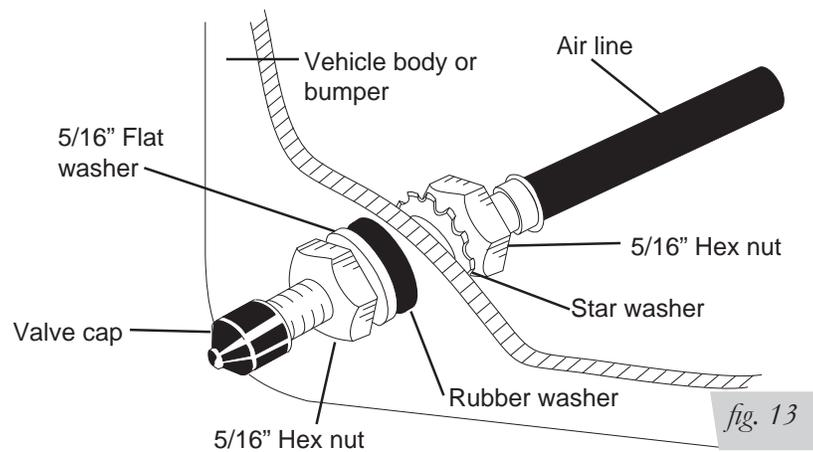

fig. 13
4. Place a 5/16" nut and star washer on the air valve. Leave enough of the inflation valve in front of the nut to extend through the hole and have room for the rubber washer, flat washer, and 5/16" nut and cap. There should be enough valve exposed after installation—approximately 1/2"—to easily apply a pressure gauge or an air chuck (fig. 13).